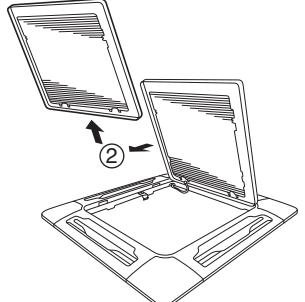

Fig. 6-15
- b) With the air-intake grille opened, remove the grille hinge from the ceiling panel by sliding it in the direction shown by the arrow ②. (Fig. 6-15)
(2) Removing the corner cover and indicator cover